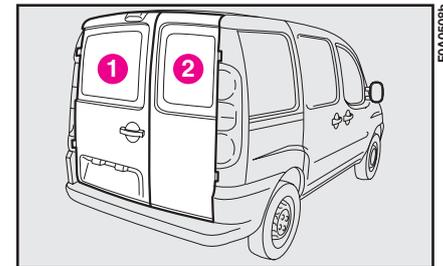

fig. 114
**Opening the first door from the outside 1-fig. 114**
**Closing the first door from the outside 1-fig. 114**
Close the right-hand door 2-fig. 114 completely first and then close the left-hand door 1-fig. 114. Never close both doors at the same time.
### Opening the first door from the inside 1-fig. 114
### Opening the second door 2-fig. 114